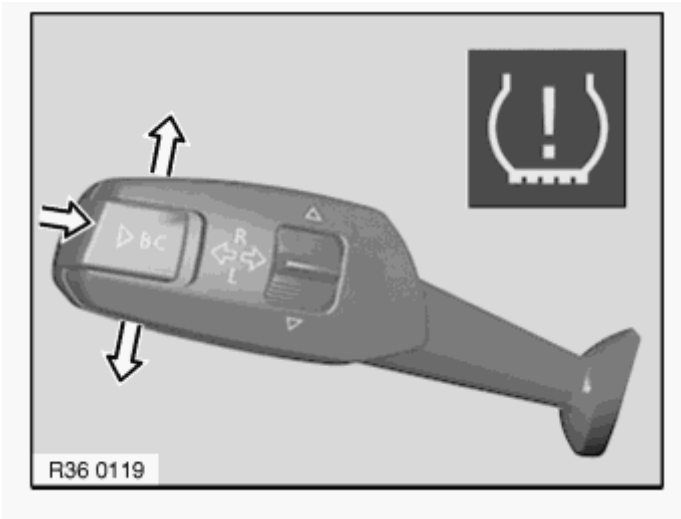

Fig. 21: Locating TPM System Reset Button (Without iDrive)
3. Move turn signal lever up or down until TPM warning symbol and RESET appears. See **Fig. 21**.